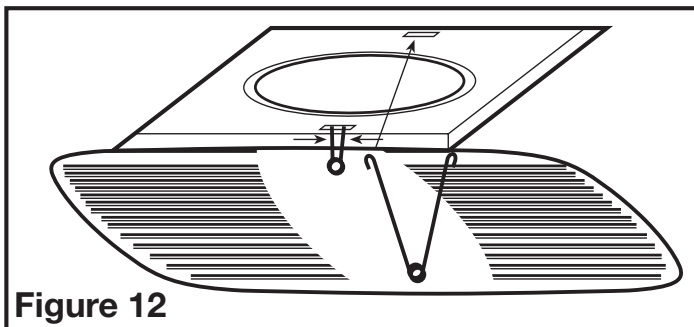

Figure 12
3. Install the grill by squeezing the two ends of the springs together and installing them up into the slots of the fan's housing. Push the grill up into position (**Figure 12**).